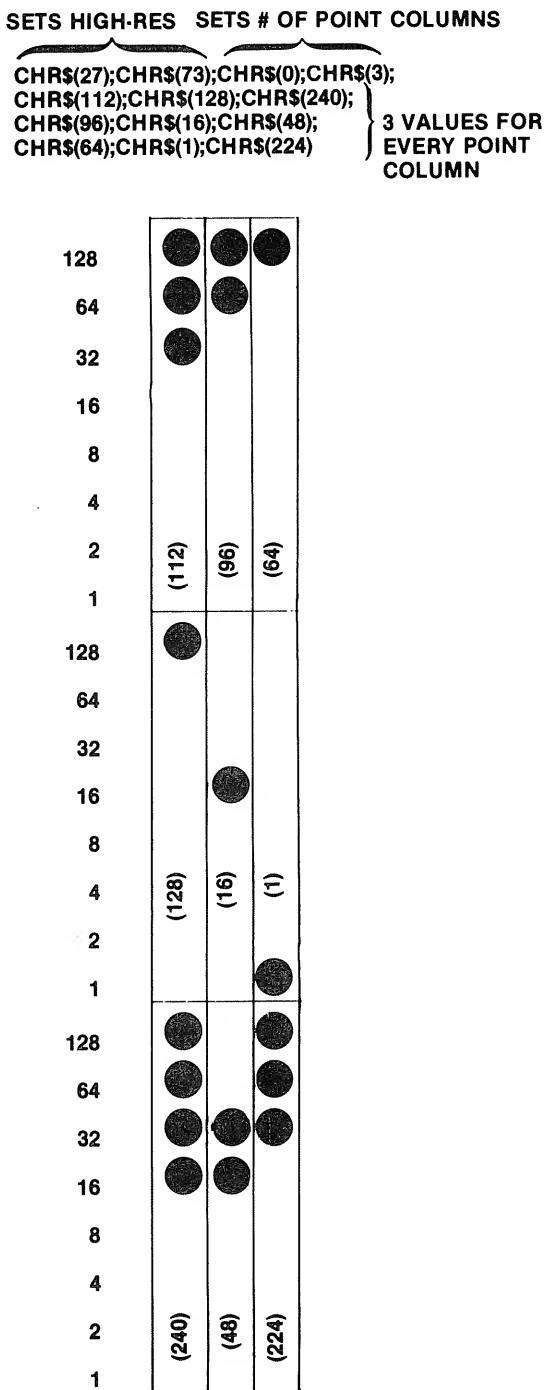

Figure 12-15. DMP-2100 High-Resolution Printing
The CHR\$(MM) and CHR\$(LL) are similar to the dot-column position sequence for normal graphics or text — the MM in this case, however, is *high order* value for the *point-column length*, and the LL is the *low order* value. The *point column* is the dot column times three, because there are three horizontal points for every horizontal dot, as shown in Figure 12-15. Note that the *point column length* is different from the *point-column position*. This will be the actual number of point columns printed for the graphics, as shown in the figure. The MM and LL values are computed the same way as for the dot-column values — the point-column number is divided by 256, with the remainder going to LL, and the quotient going to MM. A total of 1000 point columns, for example, would use an MM value of 3 (1000/256 is a quotient of 3), and an LL value of 232 (1000/256 = 3, remainder of 232).